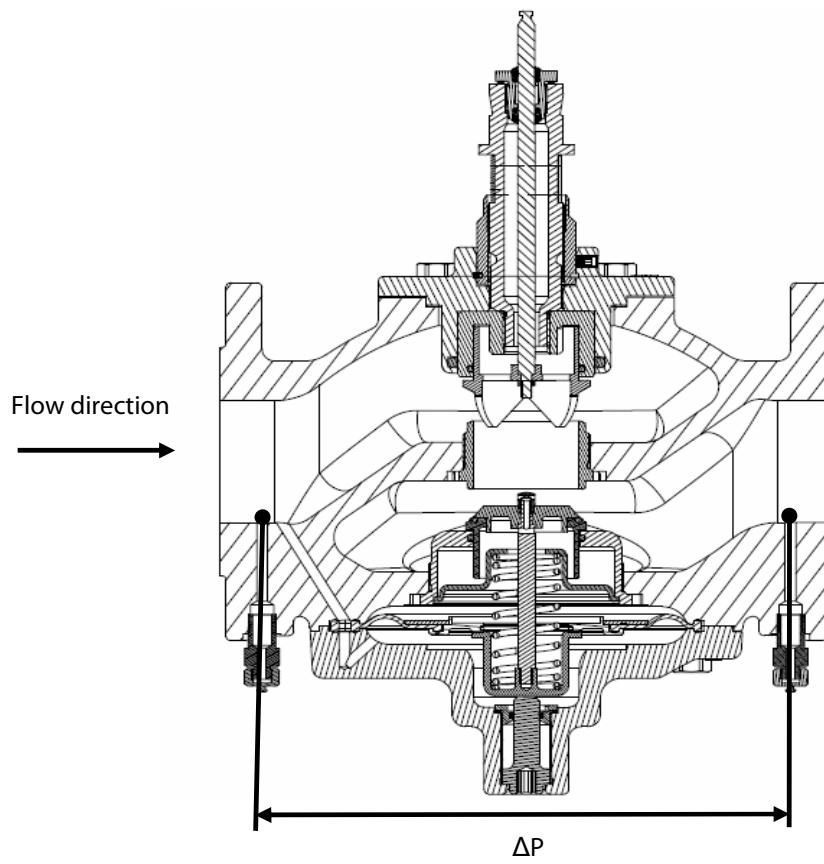

Fig. 2
- Measure the differential pressure across the measuring nipples of the AB-QM. The measuring nipples are placed in such a way that differential pressure ΔP over the valve is measured (see figure 2).